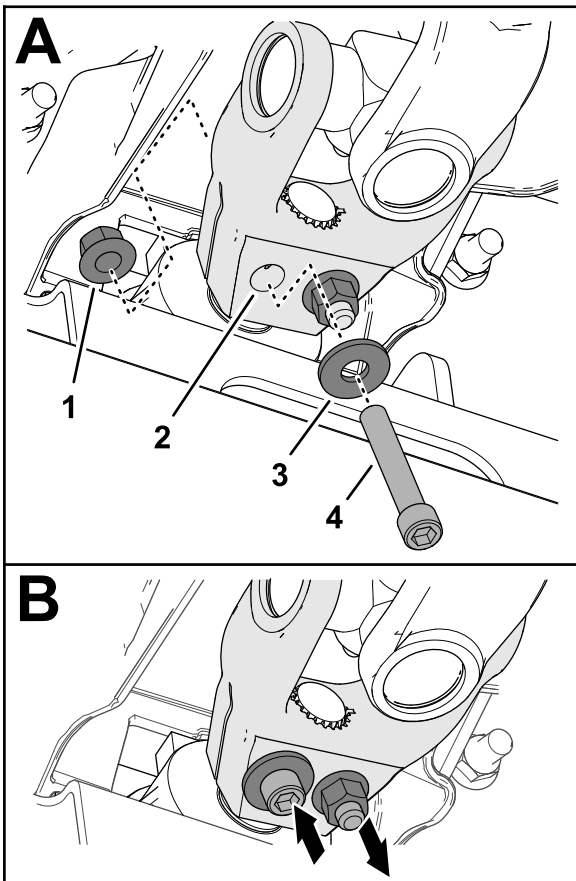

Figure 19
6. Assemble a socket-head capscrew (3/8 x 2-1/4 inches) through a washer (3/8 inch) and the hole in the driveshaft yoke (Figure 19), and secure the capscrew with a flange-locknut (3/8 inch).
(Figure 19), and secure the capscrew with a flange-locknut (3/8 inch).